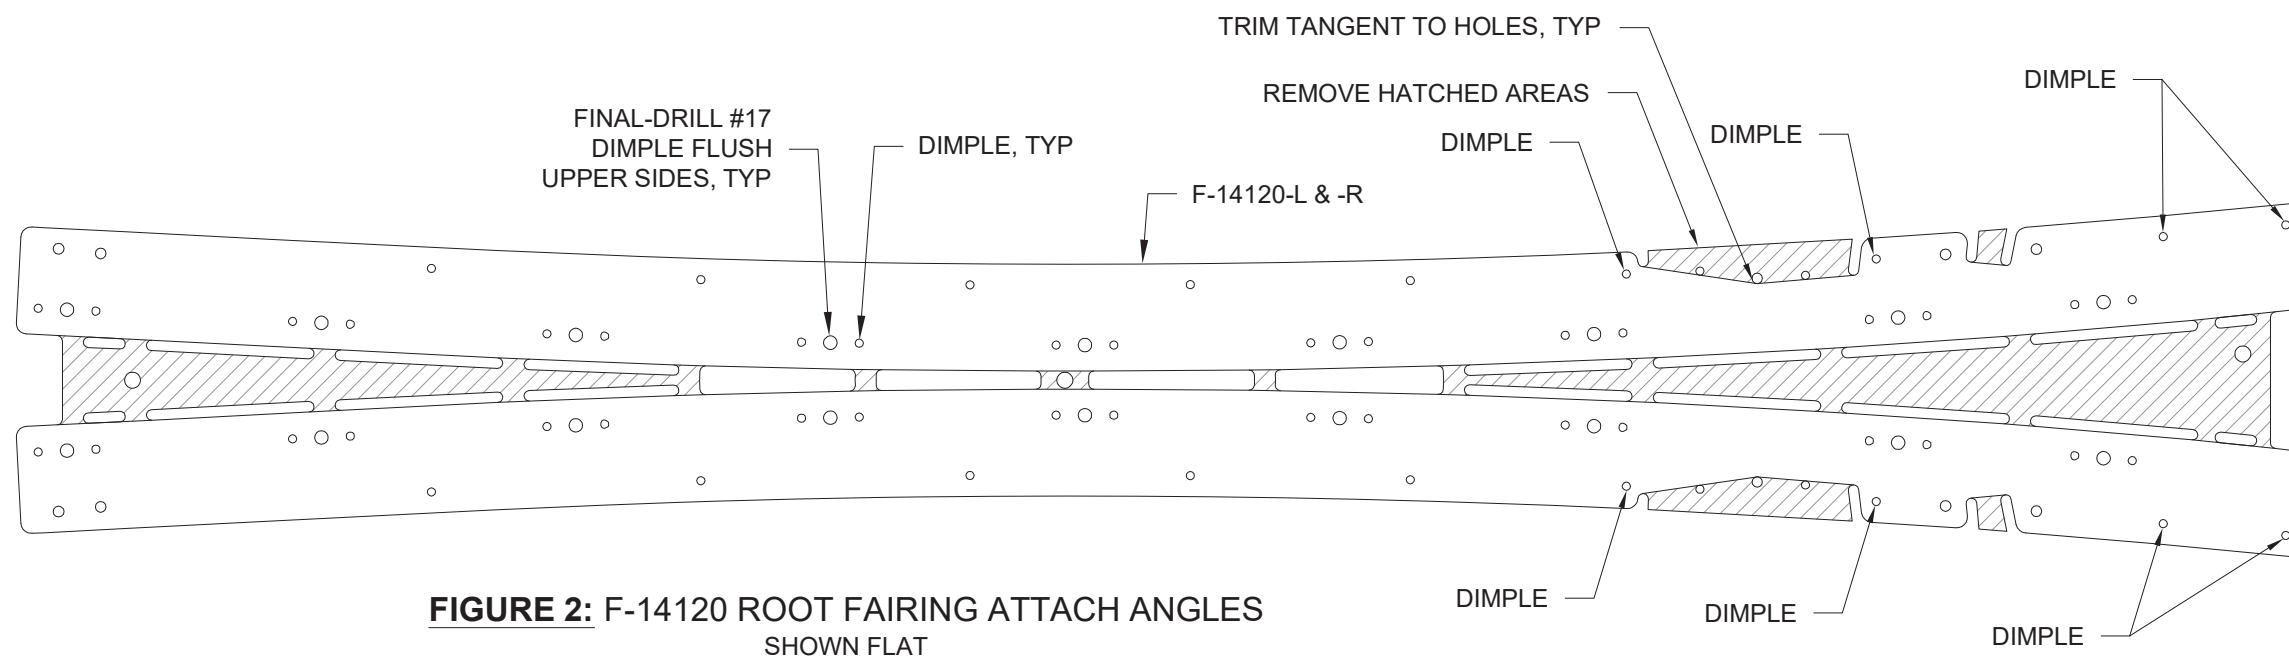

FIGURE 2: F-14120 ROOT FAIRING ATTACH ANGLES SHOWN FLAT
Step 3: Rivet the nutplates to the F-01484 Bottom Skin as shown in Figure 2. Note that one nutplate is installed between the F-01404 and F-01403 Bulkhead Assemblies.